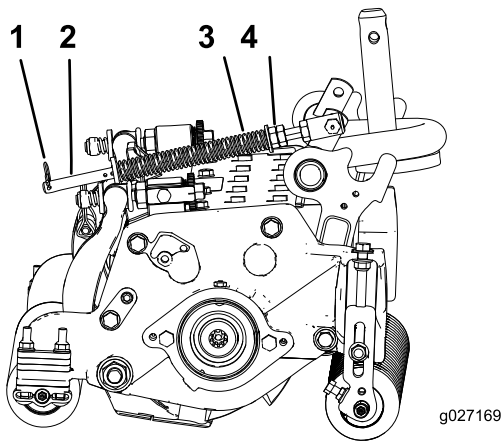

Figure 16
1. Make sure that the hairpin cotter is installed in the rear hole in the spring rod (Figure 16).
2. Tighten the hex nuts on the front end of the spring rod until the compressed length of the spring is 15.9 cm (6.25 inches) (Figure 16).